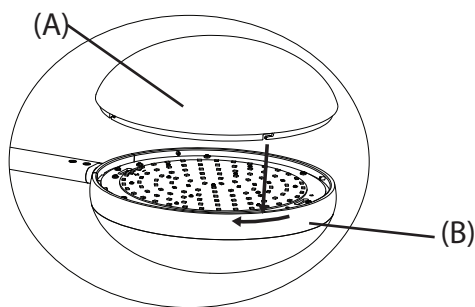

Fig. 1
1. Align the notches in the diffuser (A) with the posts in the fixture ring (B) (Fig. 1). Insert the diffuser and gently turn clockwise to lock it in place. Repeat with remaining diffusers.
2. Shut off power to the outlet box (C).
3. Make appropriate electrical connections to the power supply (D) using wire nuts:
- c. Connect the power supply's ground wire (green or uncoated) to the ground supply wire. If no ground wire is present in the outlet box, connect ground wire to the mounting plate (E) using the green screw (included).
4. Place the power supply and all wired connections carefully into the outlet box (C). Attach the mounting plate (E) to the outlet box with outlet box screws (F).